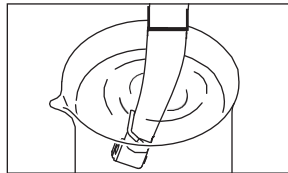

Fig.11
- 3) (Only for X92) Immerse about 20mm of the handpiece head in water, and rotate the handpiece for about 15 seconds while switching the Forward/Reverse rotation direction (Fig. 11)